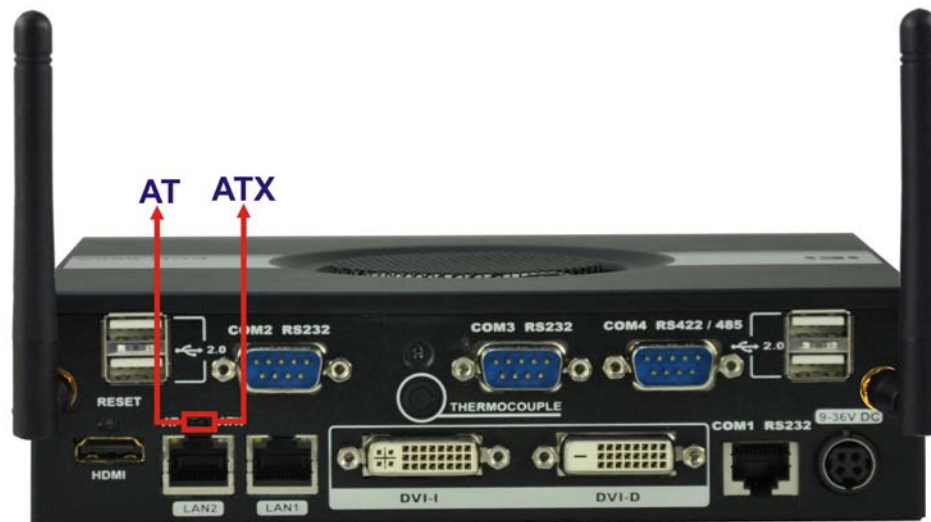

Figure 3-15: AT/ATX Switch Location
AT or ATX power mode can be used on the ECN-680A-H61. The selection is made through an AT/ATX switch located on the rear panel (Figure 3-15). To select AT mode or ATX mode, follow the steps below.
Step 1: Locate the AT/ATX switch on the rear panel (**Figure 3-15**).